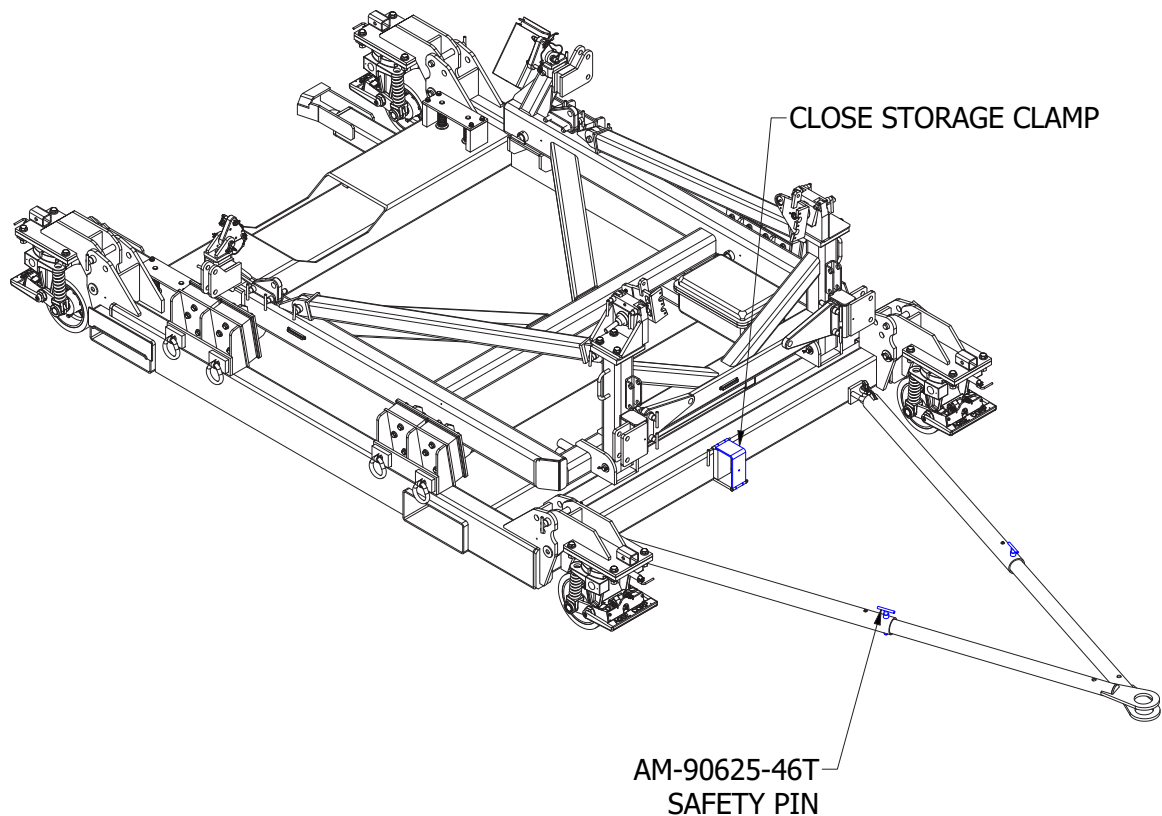

Figure 4.3-2
- 4). Close storage clamp and pin in place to prevent component from dragging along ground while towing the stand. (Figure 4.3-2)
- 5). To extend the tow bars, remove the AM-90625-46T pin closest to the towing end and pull the inner section outward until a red stripe becomes visible. (Figure 4.3-2)